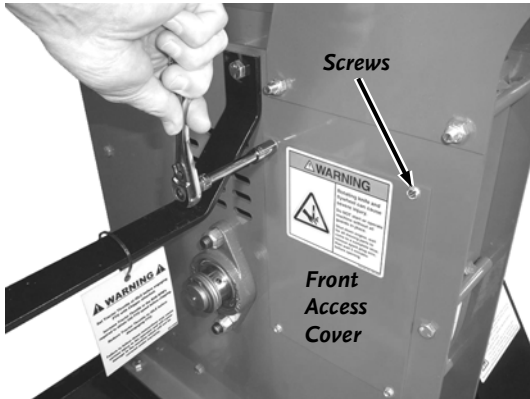

Figure 35
1. Remove the four Screws that secure the Front Access Cover with a 5/16" wrench and remove the Access Cover (**Figure 35**).